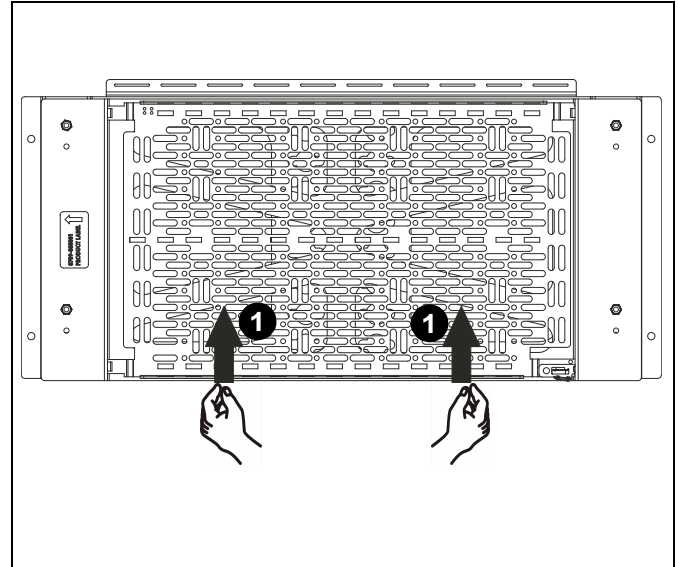

Figure 9
1. Gently push component panel in until it unlocks. (See Figure 9)